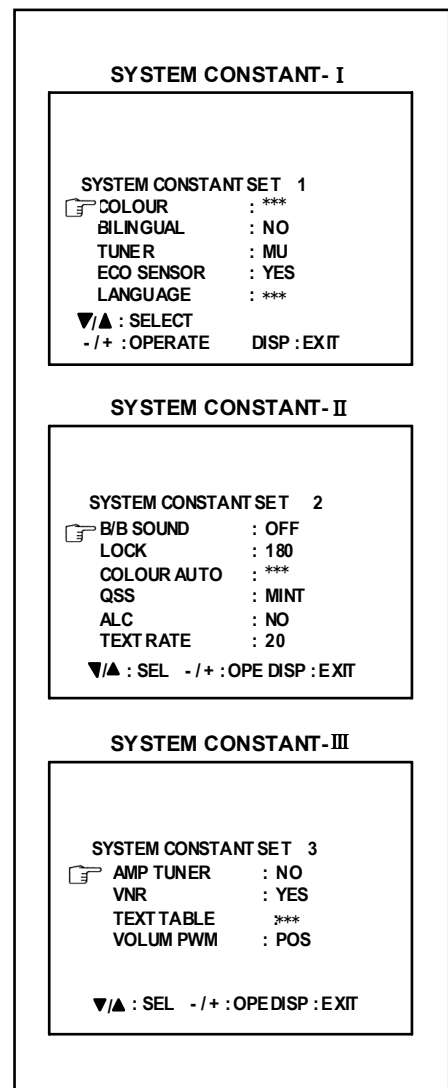

Fig.2
- While the SERVICE MENU is displayed, again press the **DISPLAY** key and **PICTURE MODE** key simultaneously, and the SYSTEM CONSTANT SET screen of Fig. 2 will be displayed.
(5) Receive channel of setting